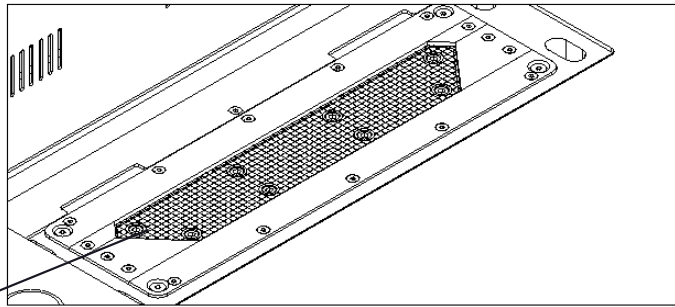

Figure.20
a) Dismember bottom mould and clean it. (Figure.20)